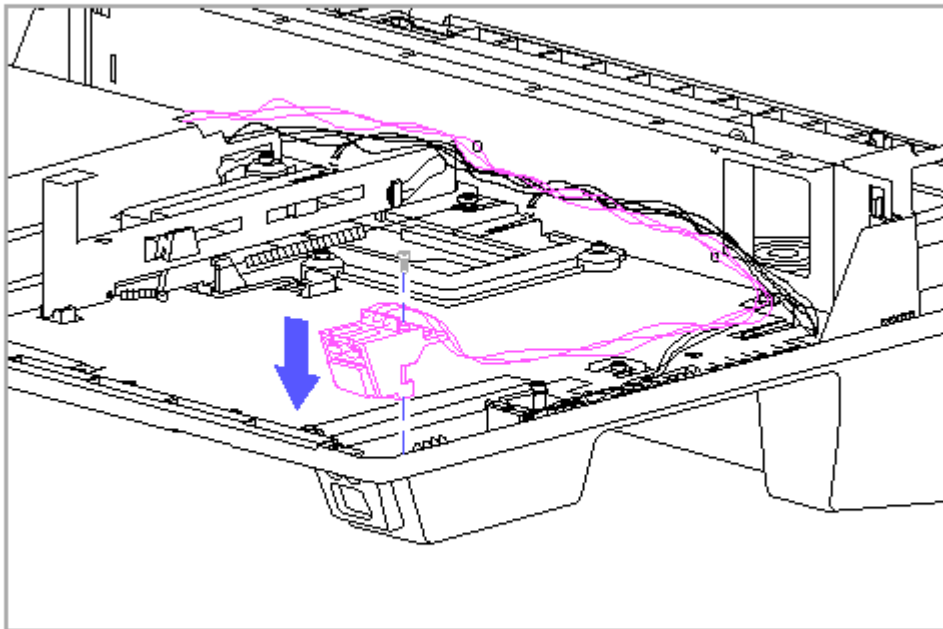

Figure 9-64. Replacing the Power Switch and Screw
5. Replace the power switch and screw (Figure 9-64).